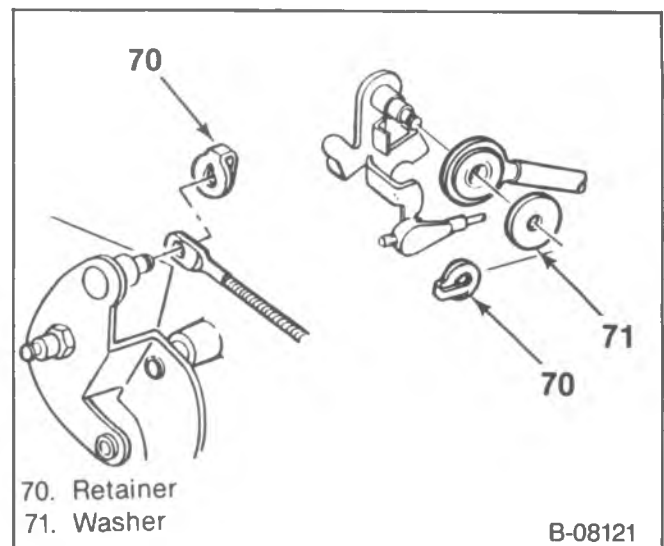

Figure 18—Control Cable Attachment
- The retainer must be installed with the tangs secured over the head of the stud (figure 18).